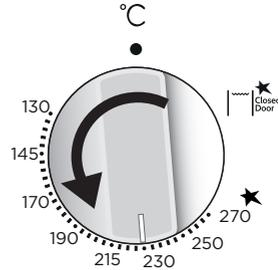

Fig. 4.2
The numbers printed on the control panel or on the knob (fig. 4.2) indicate the increasing oven temperature value (see table below).
- 2 – Lightly press and turn the thermostat knob anticlockwise to the maximum position ★ (fig. 4.2). Press the knob firmly until the burner lights.